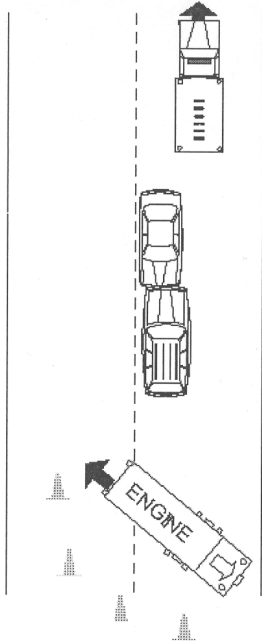

Figure 1
2. Always position apparatus to protect the scene, patients, emergency personnel, and provide a protected work area. Where possible, angle apparatus at 45 degrees away from curbside. This will direct traffic around the scene (See Figure 1). Apparatus must also allow for adequate parking space for other emergency apparatus (if needed), and a safe work area for emergency personnel. Allow enough distance to prevent a moving vehicle from knocking fire apparatus into the work areas.